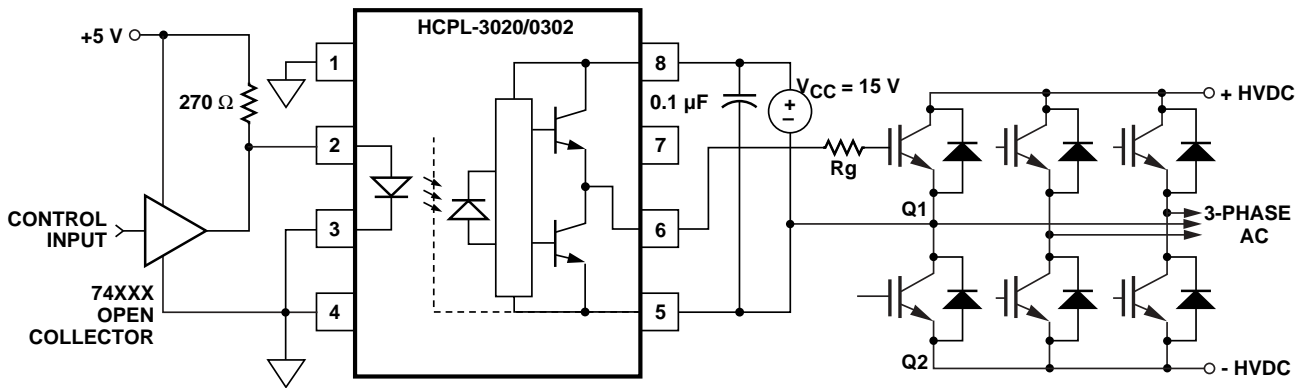
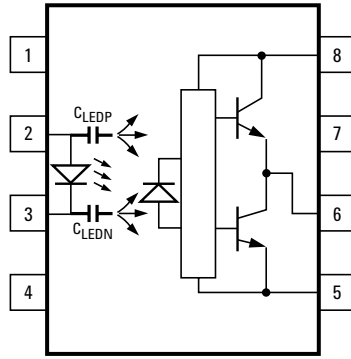
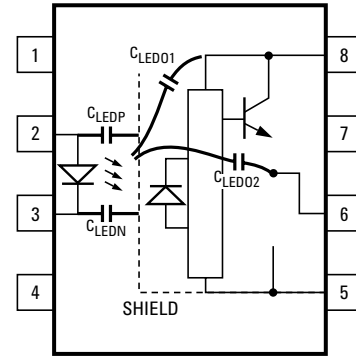
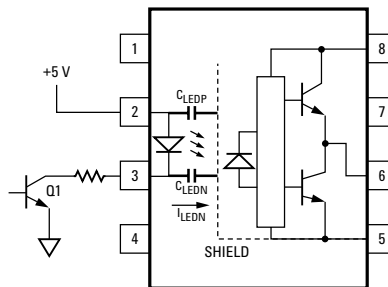

Figure 17. Recommended LED drive and application circuit for HCPL-3020 and HCPL-0302.
Figure 19. Optocoupler input to output capacitance model for unshielded optocouplers.
Figure 20. Optocoupler Input to output capacitance model for shielded optocouplers.
Figure 22. Not recommended open collector drive circuit.
a small PC board directly above the IGBT) can eliminate the need for negative IGBT gate drive in many applications as shown in Figure 17. Care should be taken with such a PC board design to avoid routing the IGBT collector or emitter traces close to the HCPL-3020 or HCPL-0302 input as this can result in unwanted
Step 1: Calculate R_g minimum from the I_{OL} peak specification. The IGBT and R_g in Figure 17 can be analyzed as a simple RC circuit with a voltage supplied by the HCPL-3020.
K_{I_{CC}} · Q_g · f is the increase in I_{CC} due to switching and K_{I_{CC}} is a constant of 0.001 mA/(nC·kHz). For the circuit in Figure 17 with I_F (worst case) = 10 mA, R_g = 57.5 Ω, Max Duty Cycle = 80%, Q_g = 100 nC, f = 20 kHz and T_{AMAX} = 85°C:
Without a detector shield, the dominant cause of optocoupler CMR failure is capacitive coupling from the input side of the optocoupler, through the package, to the detector IC as shown in Figure 19. The HCPL-3020 and HCPL-0302 improve CMR performance by using a detector IC with an optically transparent Faraday shield, which diverts the capacitively coupled current away from the sensitive IC circuitry. However, this shield does not eliminate the capacitive coupling between the LED and optocoupler pins 5-8 as shown in Figure 20. This capacitive coupling causes perturbations in the LED current during common mode transients and becomes the major source of CMR failures for a shielded optocoupler. The main design objective of a high CMR LED drive circuit becomes keeping the LED in the proper state (on or off) during common mode transients. For example, the recommended application circuit (Figure 17), can achieve $10 \text{ kV}/\mu\text{s}$ CMR while minimizing component complexity.
The open collector drive circuit, shown in Figure 22, cannot keep the LED off during a $+dV_{CM}/dt$ transient, since all the current flowing through C_{LEDN} must be supplied by the LED, and it is not recommended for applications requiring ultra high CMR_1 performance. The alternative drive circuit, which likes the recommended application circuit (Figure 17), does achieve ultra high CMR performance by shunting the LED in the off state.